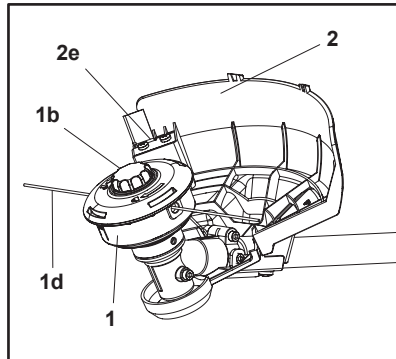

Fig. 38
1. Tap the bumper (1 b) on solid ground and the trimmer head (1) will release trimming lines (1d).
2. Excess line will be cut by the knife (2e) (Fig. 38).